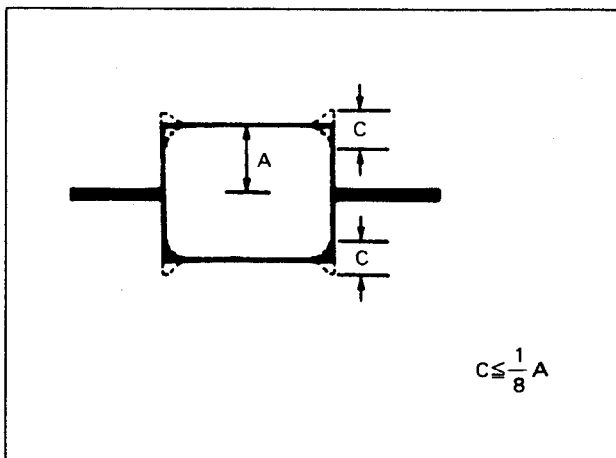

Fig. 2-46.
- 3) Verify existence of stable waveform amplitude (See Fig. 2-46).